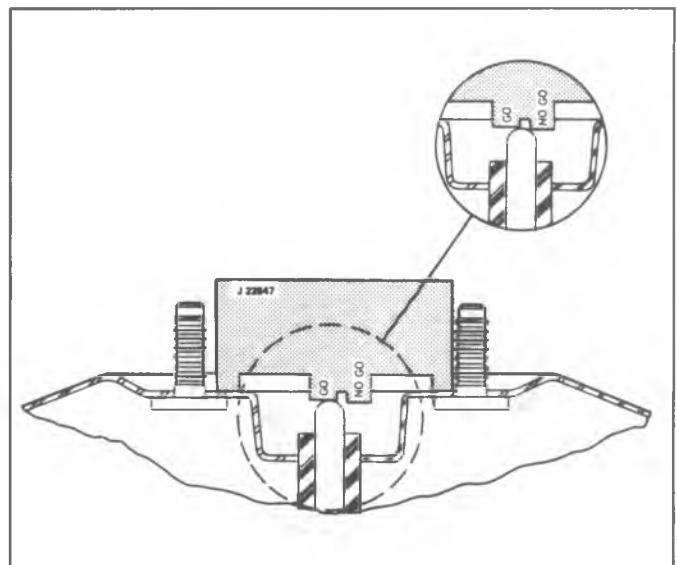

Fig. 5-12B Gaging Piston Rod
5. Place Gage J-22647 over the piston rod in a position which will allow the gage to be slipped to the left or right without contacting the studs (fig. 5-12B).